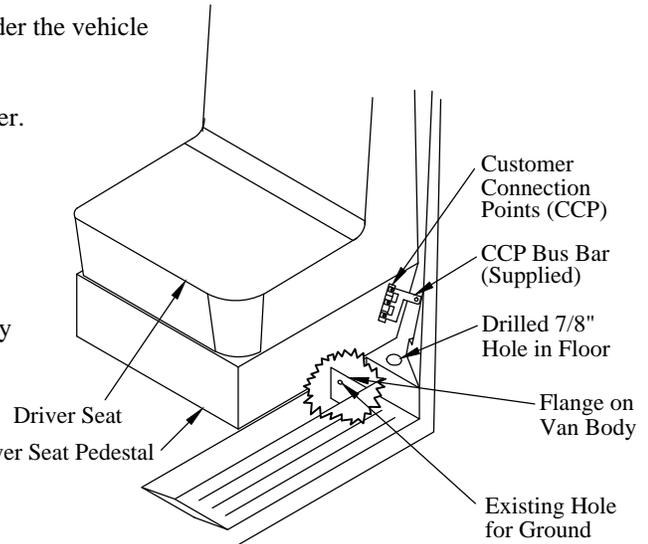

Figure 19: Customer Connection Point location.
Note: Follow the *Tommy Gate Recommended Electrical Wiring Guidelines* and wiring diagram (Figure 19) in the following steps.
14. **Connect** the negative(-) lead to a vehicle ground point, on the body, under the vehicle using the supplied 5/16" x 1/2" bolt and lock nut (Figure 19).